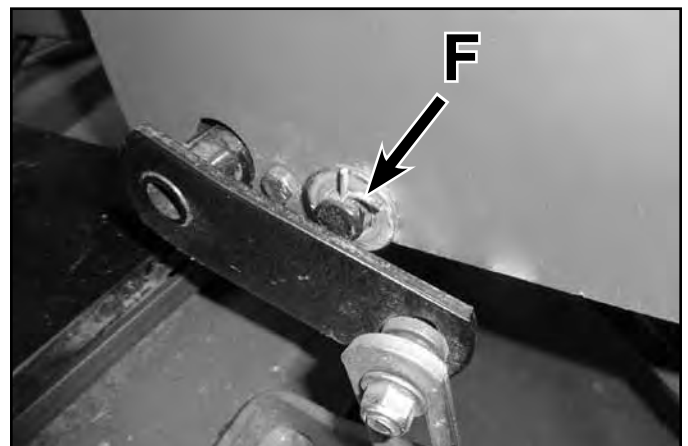

Fig. 044
6. Remove all of the clips and washers (E), then remove the (3) linkage rods from the chassis.
7. Remove the (2) cotter pins (F), (2) washers and (2) bushings (G) from the brake bell crank (H) (Fig. 044).